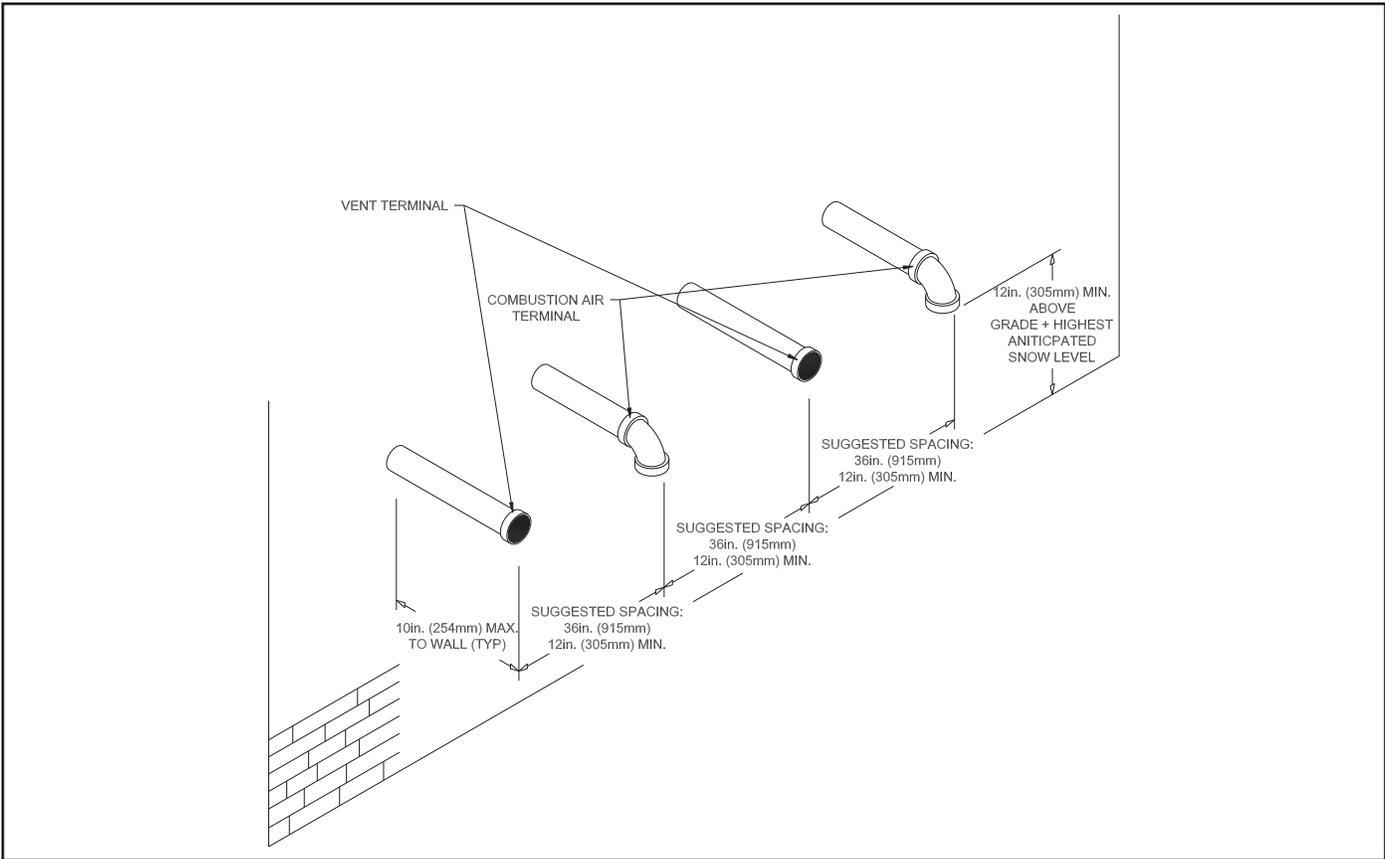
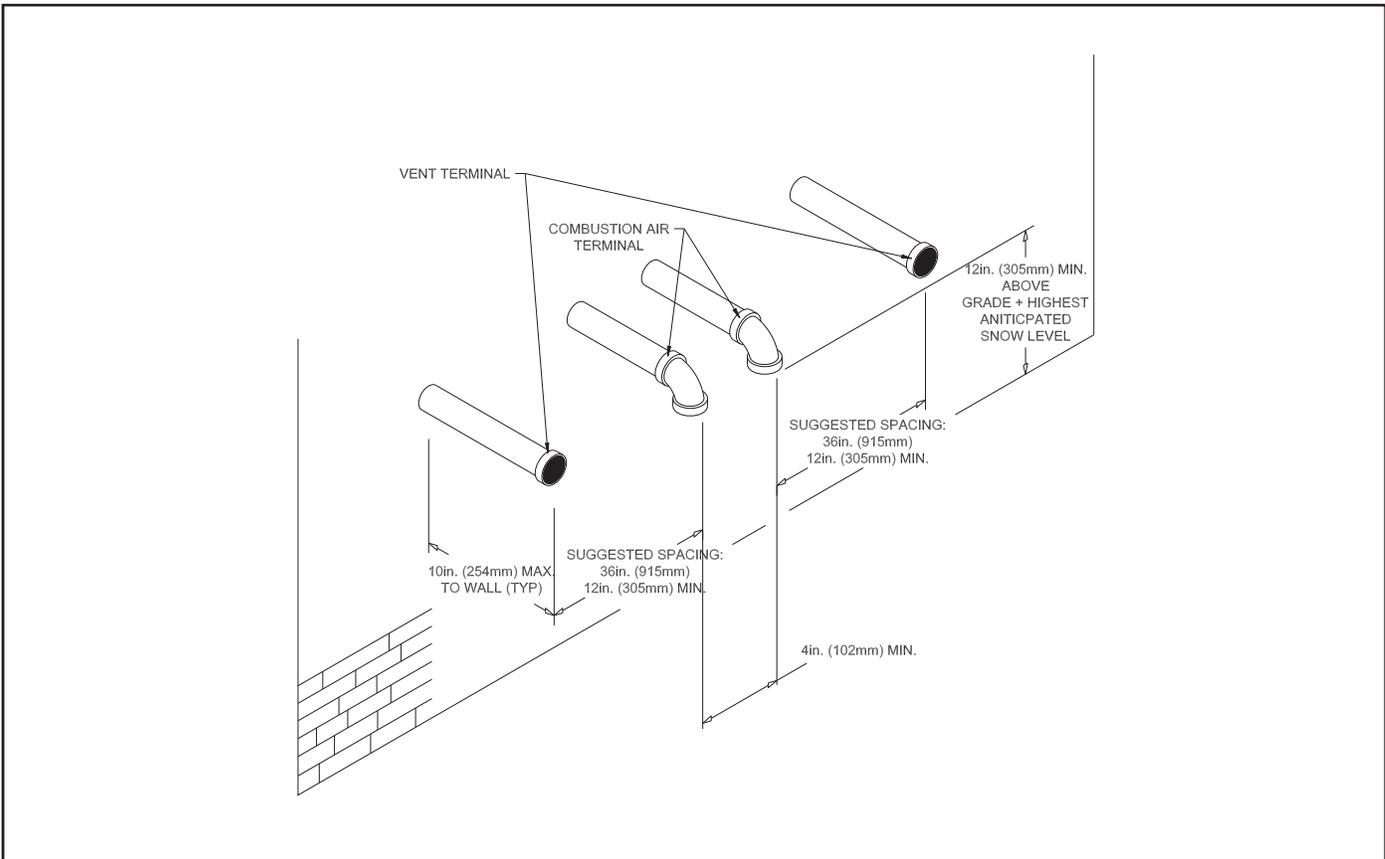

FIGURE 2.1: MULTIPLE BOILER HORIZONTAL CPVC/PVC DIRECT VENT
FIGURE 2.2: MULTIPLE BOILER HORIZONTAL CPVC/PVC DIRECT VENT ALTERNATE
- Horizontal Fitting Terminals (Figures 2.1, 2.2) – A horizontal spacing of 36” between any vent terminal and any intake terminal is recommended; however, this spacing may be reduced to 12” if necessary (Figure 2.1). Maintain a minimum spacing between adjacent intake terminals of 4” as shown in Figure 2.2.